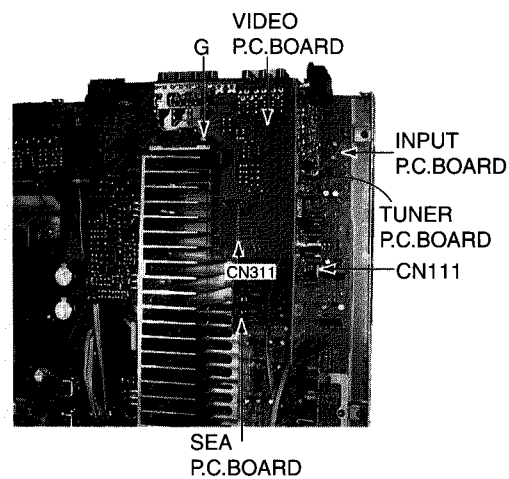

Fig.5
Disconnect the connector CN111 on the INPUT P.C.Board.(Fig.5)
(5) Remove VIDEO P.C.Board (Fig.5)